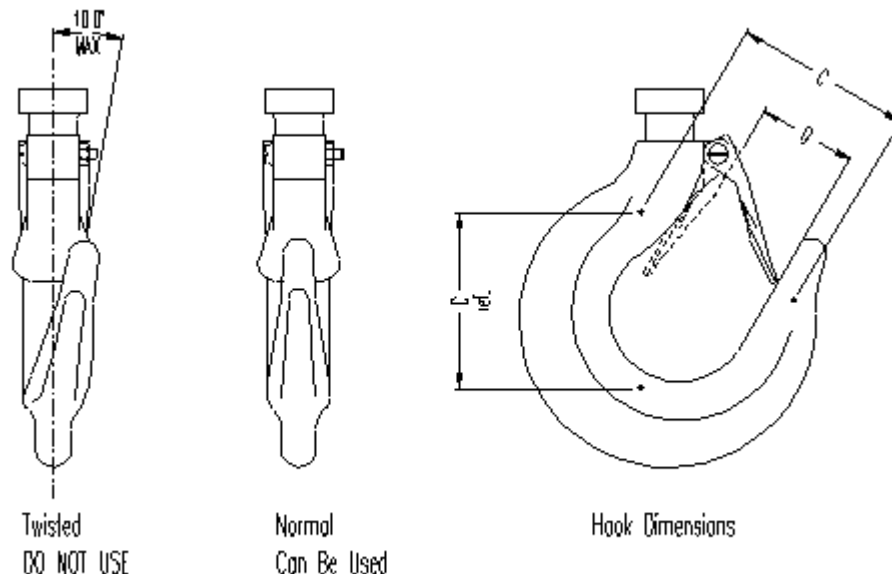

Figure 3. Hook Dimensions and Wear Limits
2. Replace hooks which exceed the throat opening specified in Table 2 or exceed a 10° twist (see Figure 3).